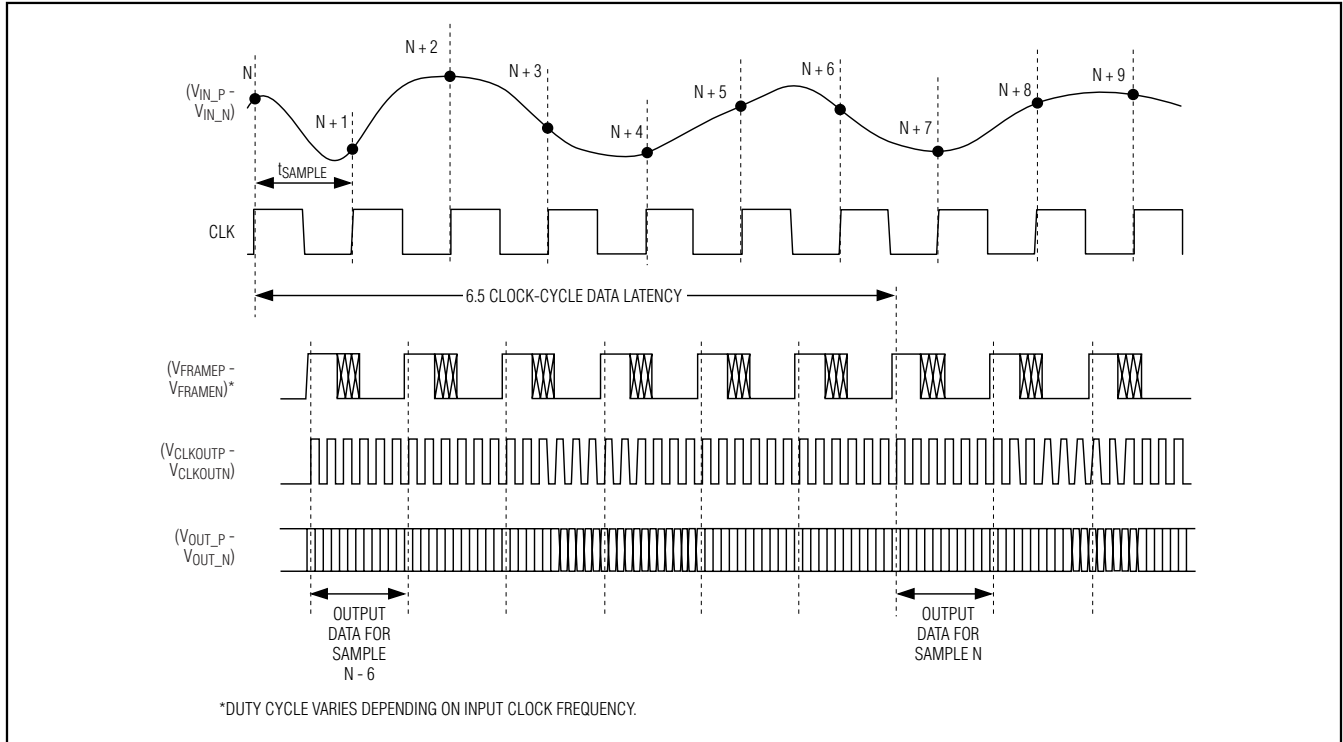
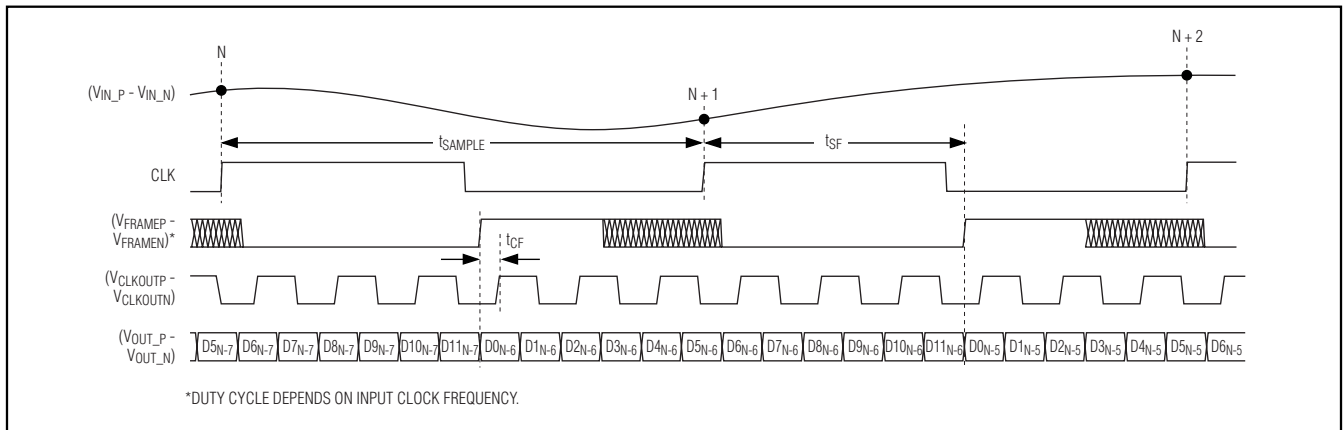
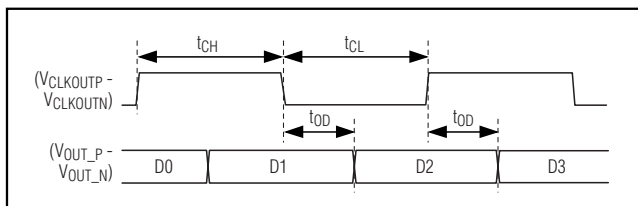

Figure 3. Global Timing Diagram
Figure 4. Detailed Two-Conversion Timing Diagram
Figure 5. Serialized-Output Detailed Timing Diagram
Figure 3 shows the relationship between the analog inputs, input clock, frame-alignment output, serial-clock output, and serial-data output. The differential analog input (IN_P and IN_N) is sampled on the rising edge of the CLK signal and the resulting data appears at the digital outputs 6.5 clock cycles later. Figure 4 provides a detailed, two-conversion timing diagram of the relationship between the inputs and the outputs.
The MAX1437 provides a differential clock output that consists of CLKOUTP and CLKOUTN. As shown in Figure 4, the serial output data is clocked out of the MAX1437 on both edges of the clock output. The frequency of the output clock is six times the frequency of CLK.
The MAX1437 provides a differential frame-alignment signal that consists of FRAMEP and FRAME_N. As shown in Figure 4, the rising edge of the frame-alignment signal corresponds to the first bit (DO) of the 12-bit serial data stream. The frequency of the frame-alignment signal is identical to the frequency of the input clock.
The MAX1437 provides its conversion results through individual differential outputs consisting of OUT_P and OUT_N. The results are valid 6.5 input clock cycles after the sample is taken. As shown in Figure 3, the output data is clocked out on both edges of the output clock, LSB (DO) first. Figure 5 provides the detailed serial-output timing diagram.